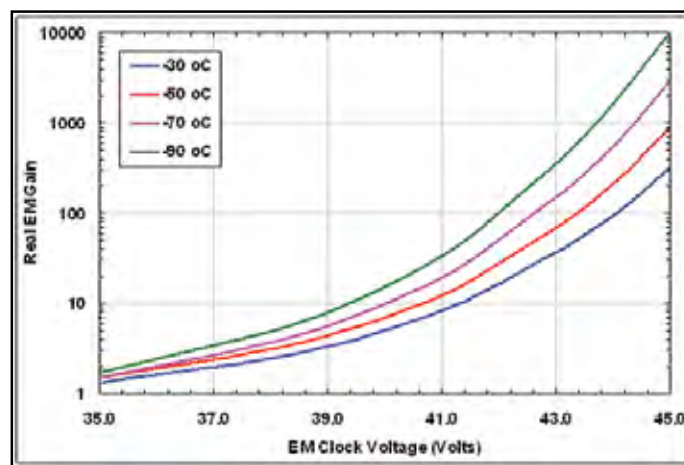
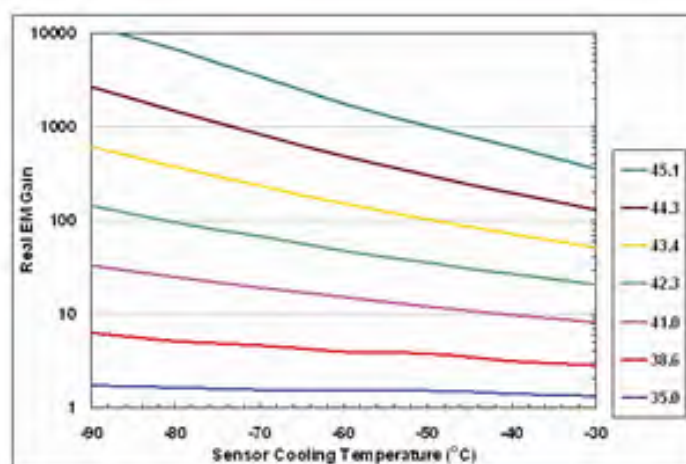
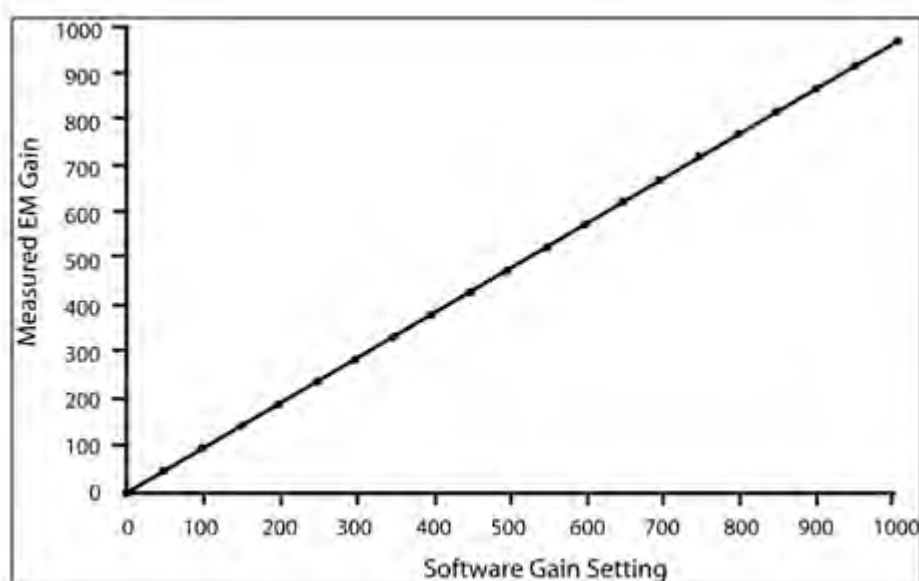

Figure 12: EM Gain vs EM clock voltage
Figure 13: EM Gain vs sensor cooling temperature
Figure 14: RealGain™ calibration in the iXon Ultra – the same linear relationship holds across all cooling temperatures
EM Gain is a function of the EM voltage and of the sensor operating temperature. When the user applies gain through the software, it is the EM voltage in the gain register that is varied. As can be seen from **Figure 12** below, the dependence of EM Gain on EM voltage is sharp (note the logarithmic scaling). This arises because the signal electrons acquire energy as they are accelerated through the EM electric field, and once this field strength reaches the threshold needed to overcome the bandgap energy, the impact ionization rate rises rapidly. Historically, this sharp dependence has meant that the software control of EM Gain in all EMCCD cameras has been via a non-linear scale with most of the amplification occurring within a relatively small portion at the top of the overall scale. Thus considerable fine tuning by the user to determine an optimal gain setting has been required, and even then the actual gain is determined only through measurement of a stable light source, with and without gain applied.
**Figure 12** shows how the EM Gain varies with temperature, this dependence arising primarily from photon scattering of electrons when they are accelerating in the EM electric field. The scattering causes a loss of energy, which increases with temperature. To make up this loss and maintain EM Gain, a larger EM electric field must be used at higher temperatures. As can be seen from **Figure 13**, EM Gains well in excess of x1000 can be achieved at low temperatures. However, it is not recommended that gains above x1000 be used because such high gains can cause significant ageing of the gain register (see **EM Gain Ageing** on page 46).
- Do not use EM Gains greater than necessary to overcome the read noise (please refer to **Figure 13** on **page 44** and **Figure 14** on **page 45**). A rule of thumb is that a gain of x4 or x5 of the root-mean-square read noise (accessible from the performance sheet) is more than sufficient to render this noise source negligible. In practice, this can always be achieved with EM Gain of less than x500 (much less for the slower readout speeds). Pushing gain beyond this value would give little or no extra S/N benefit and would only reduce dynamic range.